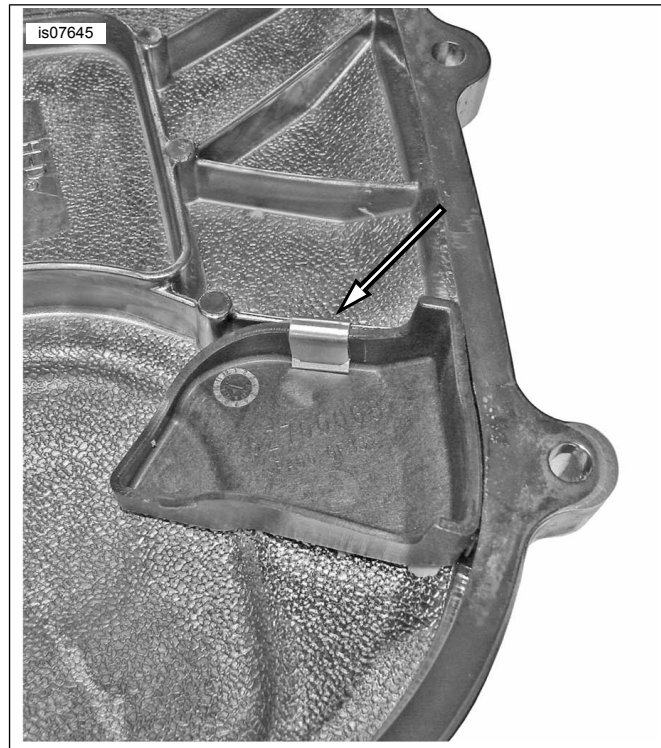

Figure 3. Install Deflector and Retaining Clip
5. See Figure 3. Carefully position deflector in primary cover and press firmly into place. Slide deflector into position. DO NOT lift.